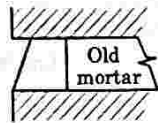

Fig. 5.20.5. Struck pointing
- i. In this type of pointing, the face of pointing is kept inclined as shown in Fig. 5.20.5.